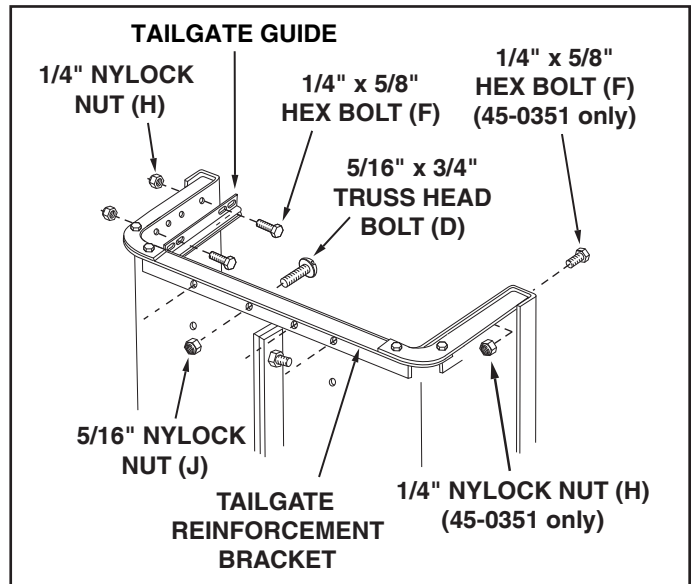
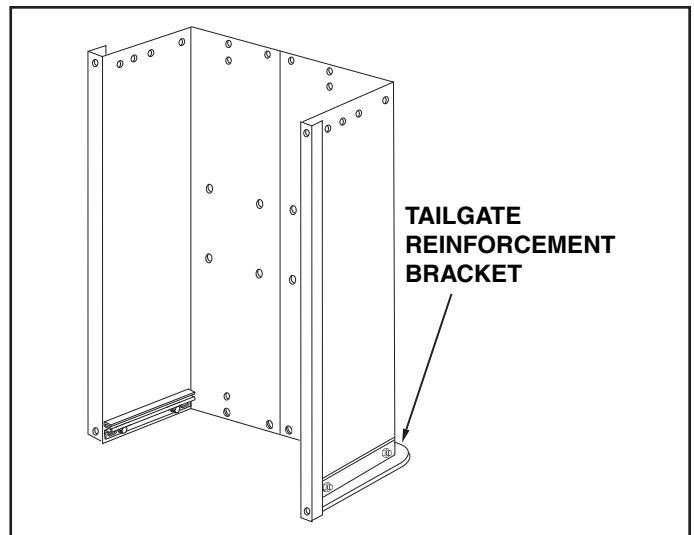

FIGURE 2
FIGURE 3
5. Position the tailgate reinforcement bracket on outside of cart as shown in figure 3. Assemble to the bottom of the cart body using four 5/16" x 3/4" truss head bolts (D) and 5/16" nylock nuts (J). **Do not tighten yet.** See figure 2.
6. Position the tailgate guides on the inside of the cart bodies with guide channels to the front. Assemble using four 1/4" x 5/8" hex bolts (F) and 1/4" nylock nuts (H). **Do not tighten yet.** See figure 2.
8. Carefully turn the cart over so that the tailgate reinforcement bracket is on the bottom. See figure 3.